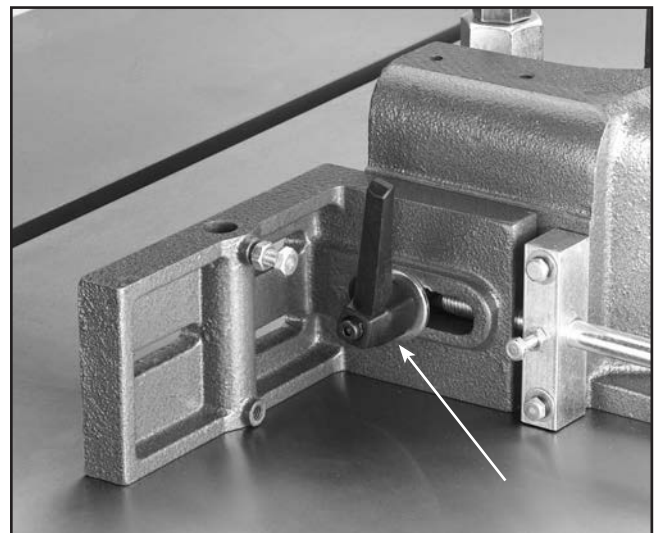

Figure 17. Adjustment handle.
2. Insert the adjustment handle (see **Figure 17**) into the fence bracket, and thread it into the cutter guard.